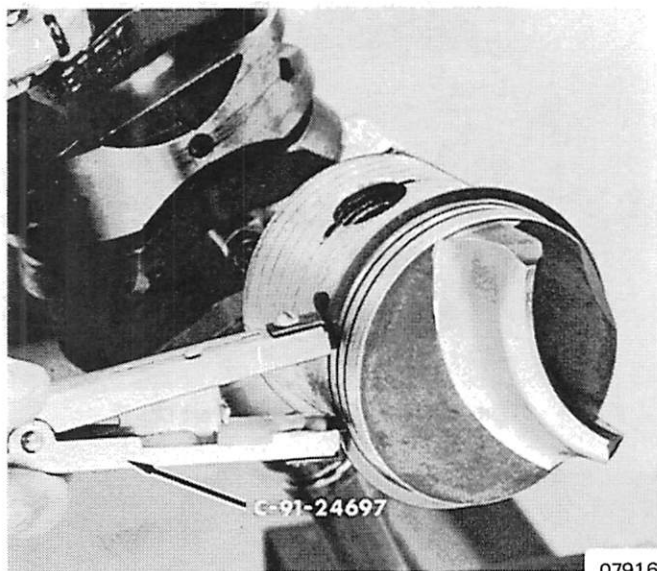

Figure 1. Removing Piston Rings
1. Using Piston Ring Expander (C-91-24697), remove piston rings. (Figure 1)